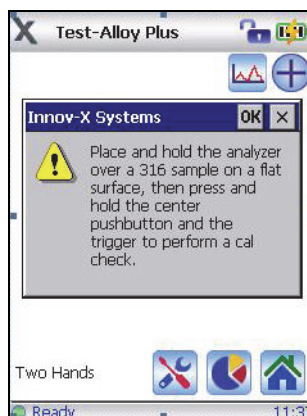

Figure 4-11 Instructions for Cal Check procedure: Two-hand operation enabled
2. Read the dialog box instructions (see Figure 4-11 on page 72). Do NOT press **OK**.